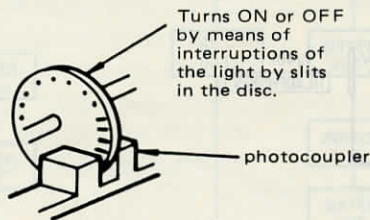

Fig. 5
A signal consisting of a mixture of the signals from Q703 and Q604 (VFO) is supplied to terminal ③③ of IC803. When the TUNING control knob is turned at this time, the rotation is detected by a photo-coupler Q406 and this signal is supplied to terminal ③④. [See Fig. 5.]